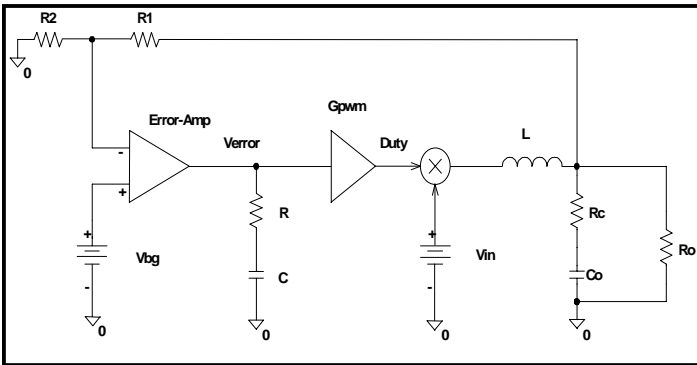

Fig. 1. SC2449 control model.
The control model of SC2449 can be depicted in Fig. 1. This model can also be used in a Spice kind of simulator to generate loop gain Bode plots. The bandgap reference is 1 V and trimmed to +/-1% accuracy. The desired output voltage can be achieved by setting the resistive divider network, R1 and R2.
(6) The final step is to generate the Bode plot, either by using the simulation model in Fig. 1 or using the equations provided here with Mathcad. The phase margin can then be checked using the Bode plot. Usually, this design procedure ensures a healthy phase margin.